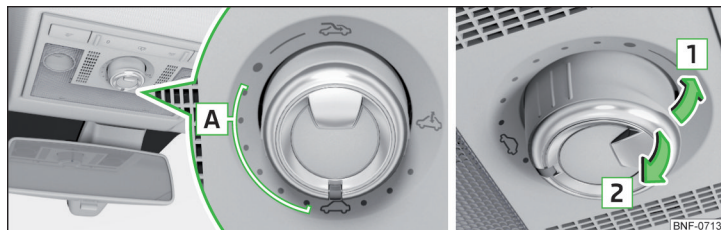

Fig. 35 Operation of the sliding/tilting roof
Operation of the tilt / slide sunroof » Fig. 35
If the tilt / slide sunroof is closed, by pulling on the recess of the switch in the direction of arrow **2**, » Fig. 35 on page 44 and the closing process is hindered by an obstacle, then at the third attempt at closing, the force limitation will cease to function (if less than 5 s passes between the individual attempts to close). The tilt / slide sunroof closes with full force - this can cause injury.
- Turn on the ignition and set the switch to position ☞ » Fig. 35 on page 44.